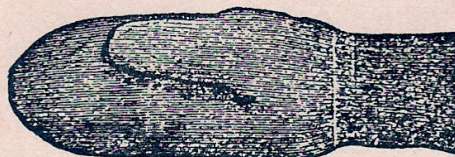

Figure 8.
34. TO KNIT MITTENS. (Large Size)—Make a $4\frac{1}{2}$ inch cuff just like the top of a Gents Sock, either ribbed or hemmed, and to this knit two inches of plain before you start the thumb then for the thumb knit only on 24 needles at front of Machine, lifting all other needles out of action. Knit on these 24 needles a Plain Web of 45 courses, break the yarn and run the stitches off, leaving five inches of loose yarn attached for closing up the thumb after completion. With your Pick-up place on these 24 empty needles 12 stitches from each selvedged edge of flat thumb web; beginning close down to the hand where you started knitting web. Hold the work down well and with the thumb web down inside of Cylinder proceed to knit, with all cylinder needles in action, about 45 rounds for the hand. Close off just as you do the toe of the hosiery, and with a darning needle close up the thumb and this open end of the hand with the mitten turned wrong side out and your mitten is completed. (See Fig. 8).